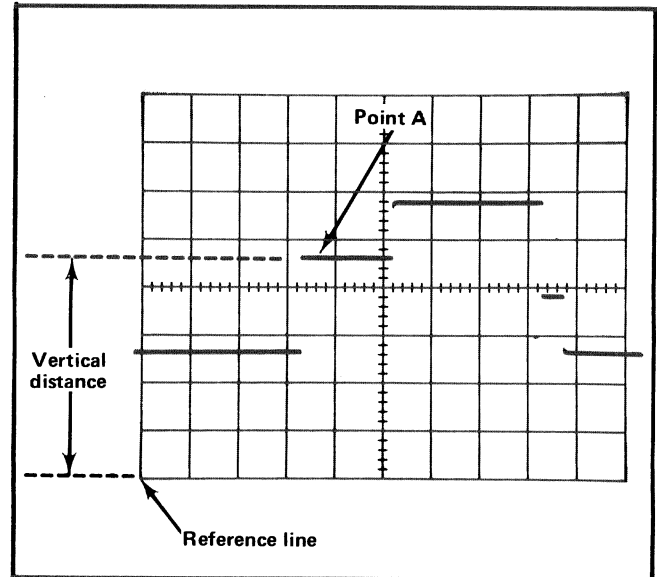

Fig. 2-2. Measuring instantaneous voltage with respect to same reference.
6. Measure the distance in divisions between the reference line and the point on the waveform at which the DC level is to be measured. For example, in Fig. 2-2 the measurement is between the reference line and point A.
**EXAMPLE:** Assume the vertical distance measured is 3.6 divisions (see Fig. 2-2) and the waveform is above the reference line, using a 10X probe with a VOLTS/DIV switch setting of 0.5 V.